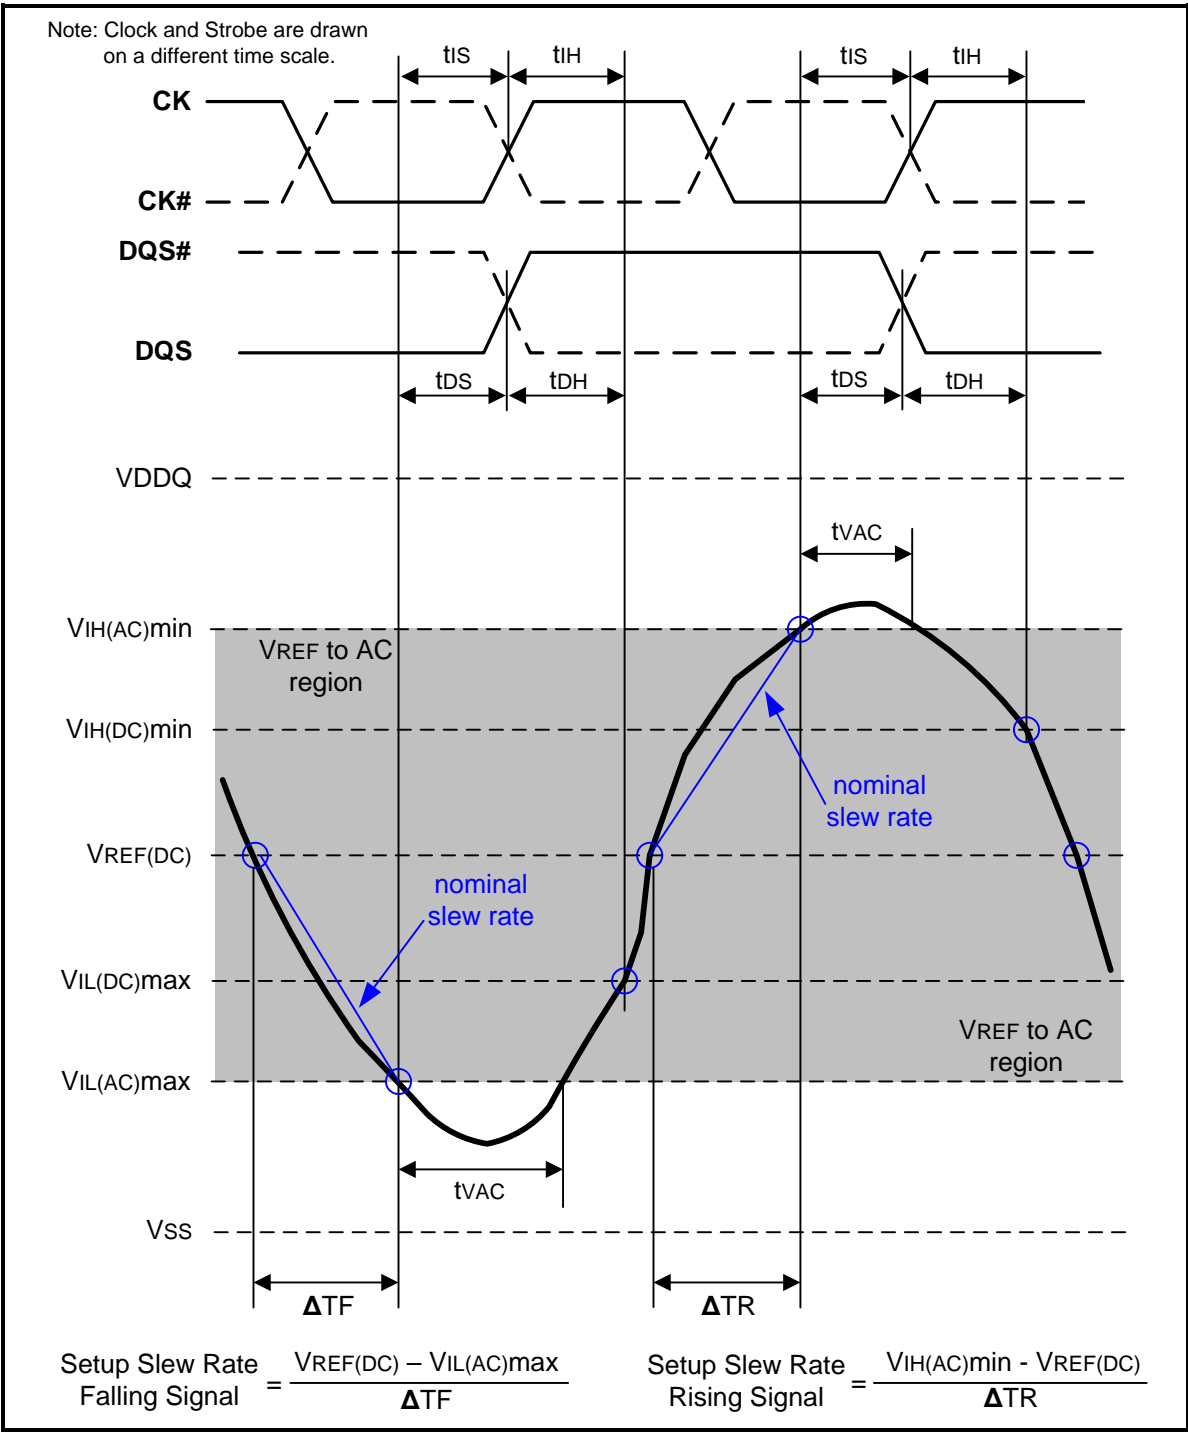
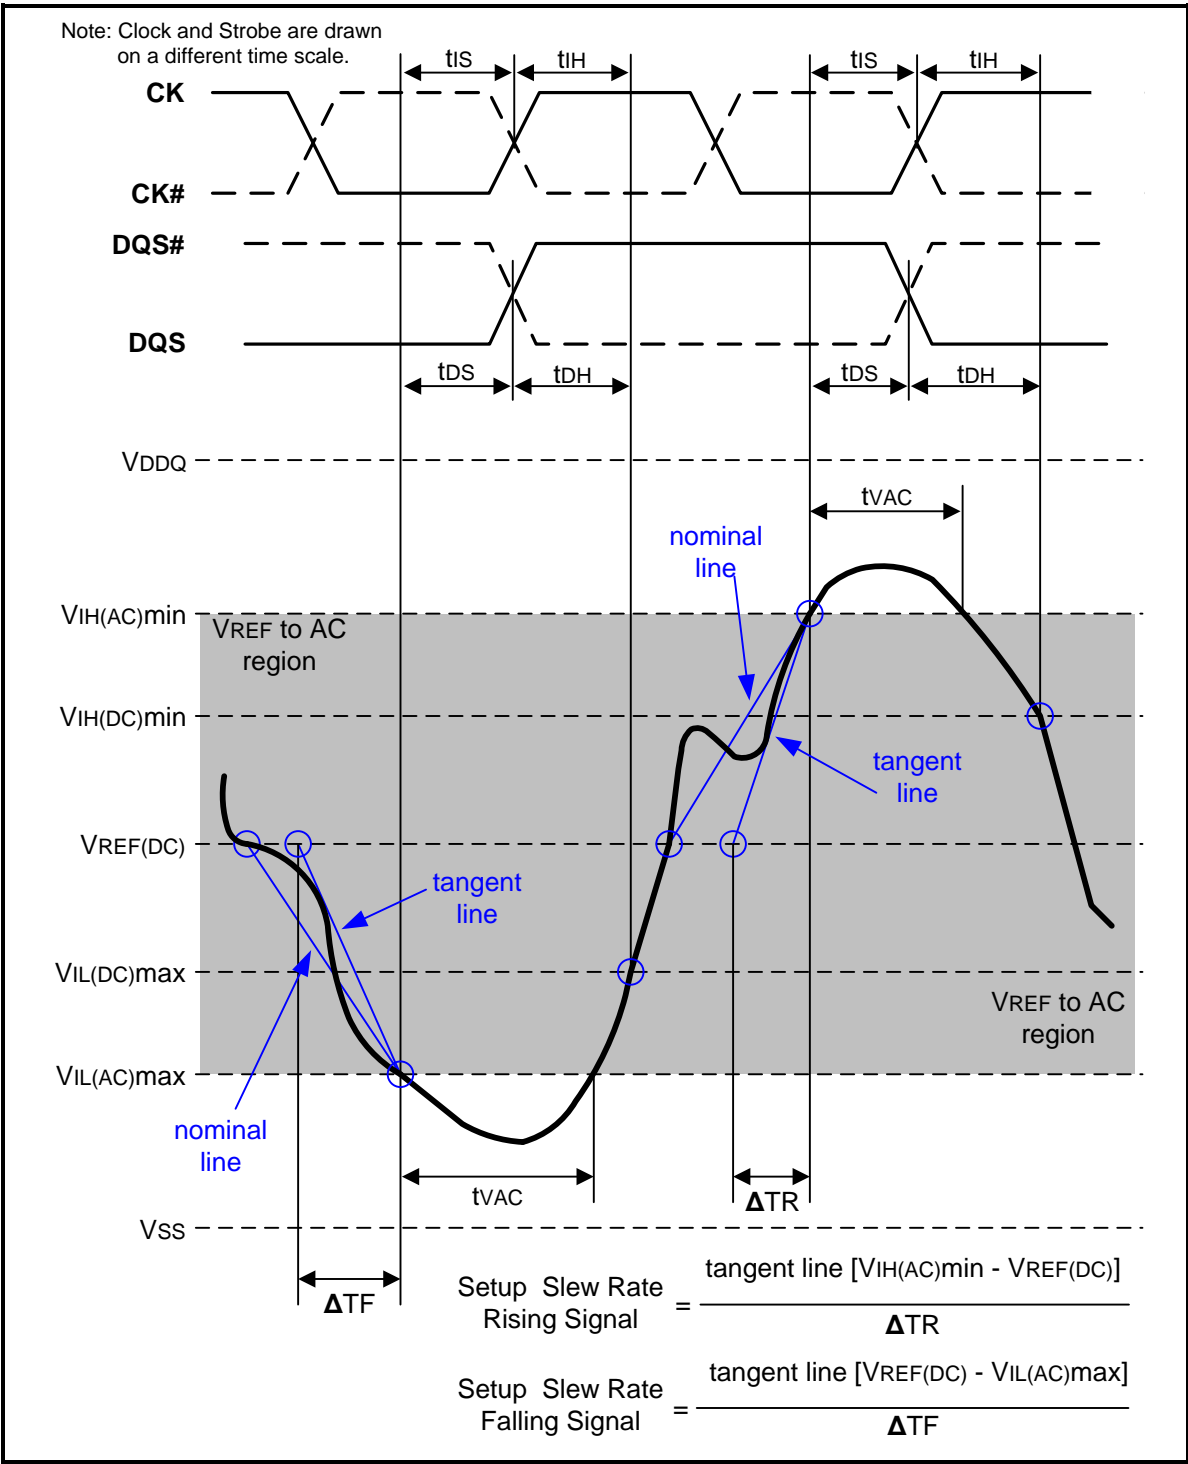

Figure 107 – Illustration of nominal slew rate and t_{VAC} for setup time t_{DS} (for DQ with respect to strobe) and t_{IS} (for ADD/CMD with respect to clock)
Figure 109 – Illustration of tangent line for setup time tds (for DQ with respect to strobe) and tis (for ADD/CMD with respect to clock)
Setup (t_{IS}) nominal slew rate for a rising signal is defined as the slew rate between the last crossing of $V_{REF(DC)}$ and the first crossing of $V_{IH(AC)min}$. Setup (t_{IS}) nominal slew rate for a falling signal is defined as the slew rate between the last crossing of $V_{REF(DC)}$ and the first crossing of $V_{IL(AC)max}$. If the actual signal is always earlier than the nominal slew rate line between shaded 'VREF(DC) to AC region', use nominal slew rate for derating value (see Figure 107). If the actual signal is later than the nominal slew rate line anywhere between shaded 'VREF(DC) to AC region', the slew rate of a tangent line to the actual signal from the AC level to $V_{REF(DC)}$ level is used for derating value (see Figure 109).
Setup (tDS) nominal slew rate for a rising signal is defined as the slew rate between the last crossing of VREF(DC) and the first crossing of VIH(AC)min. Setup (tDS) nominal slew rate for a falling signal is defined as the slew rate between the last crossing of VREF(DC) and the first crossing of VIL(AC)max (see Figure 107). If the actual signal is always earlier than the nominal slew rate line between shaded 'VREF(DC) to AC region', use nominal slew rate for derating value. If the actual signal is later than the nominal slew rate line anywhere between shaded 'VREF(DC) to AC region', the slew rate of a tangent line to the actual signal from the AC level to VREF(DC) level is used for derating value (see Figure 109).